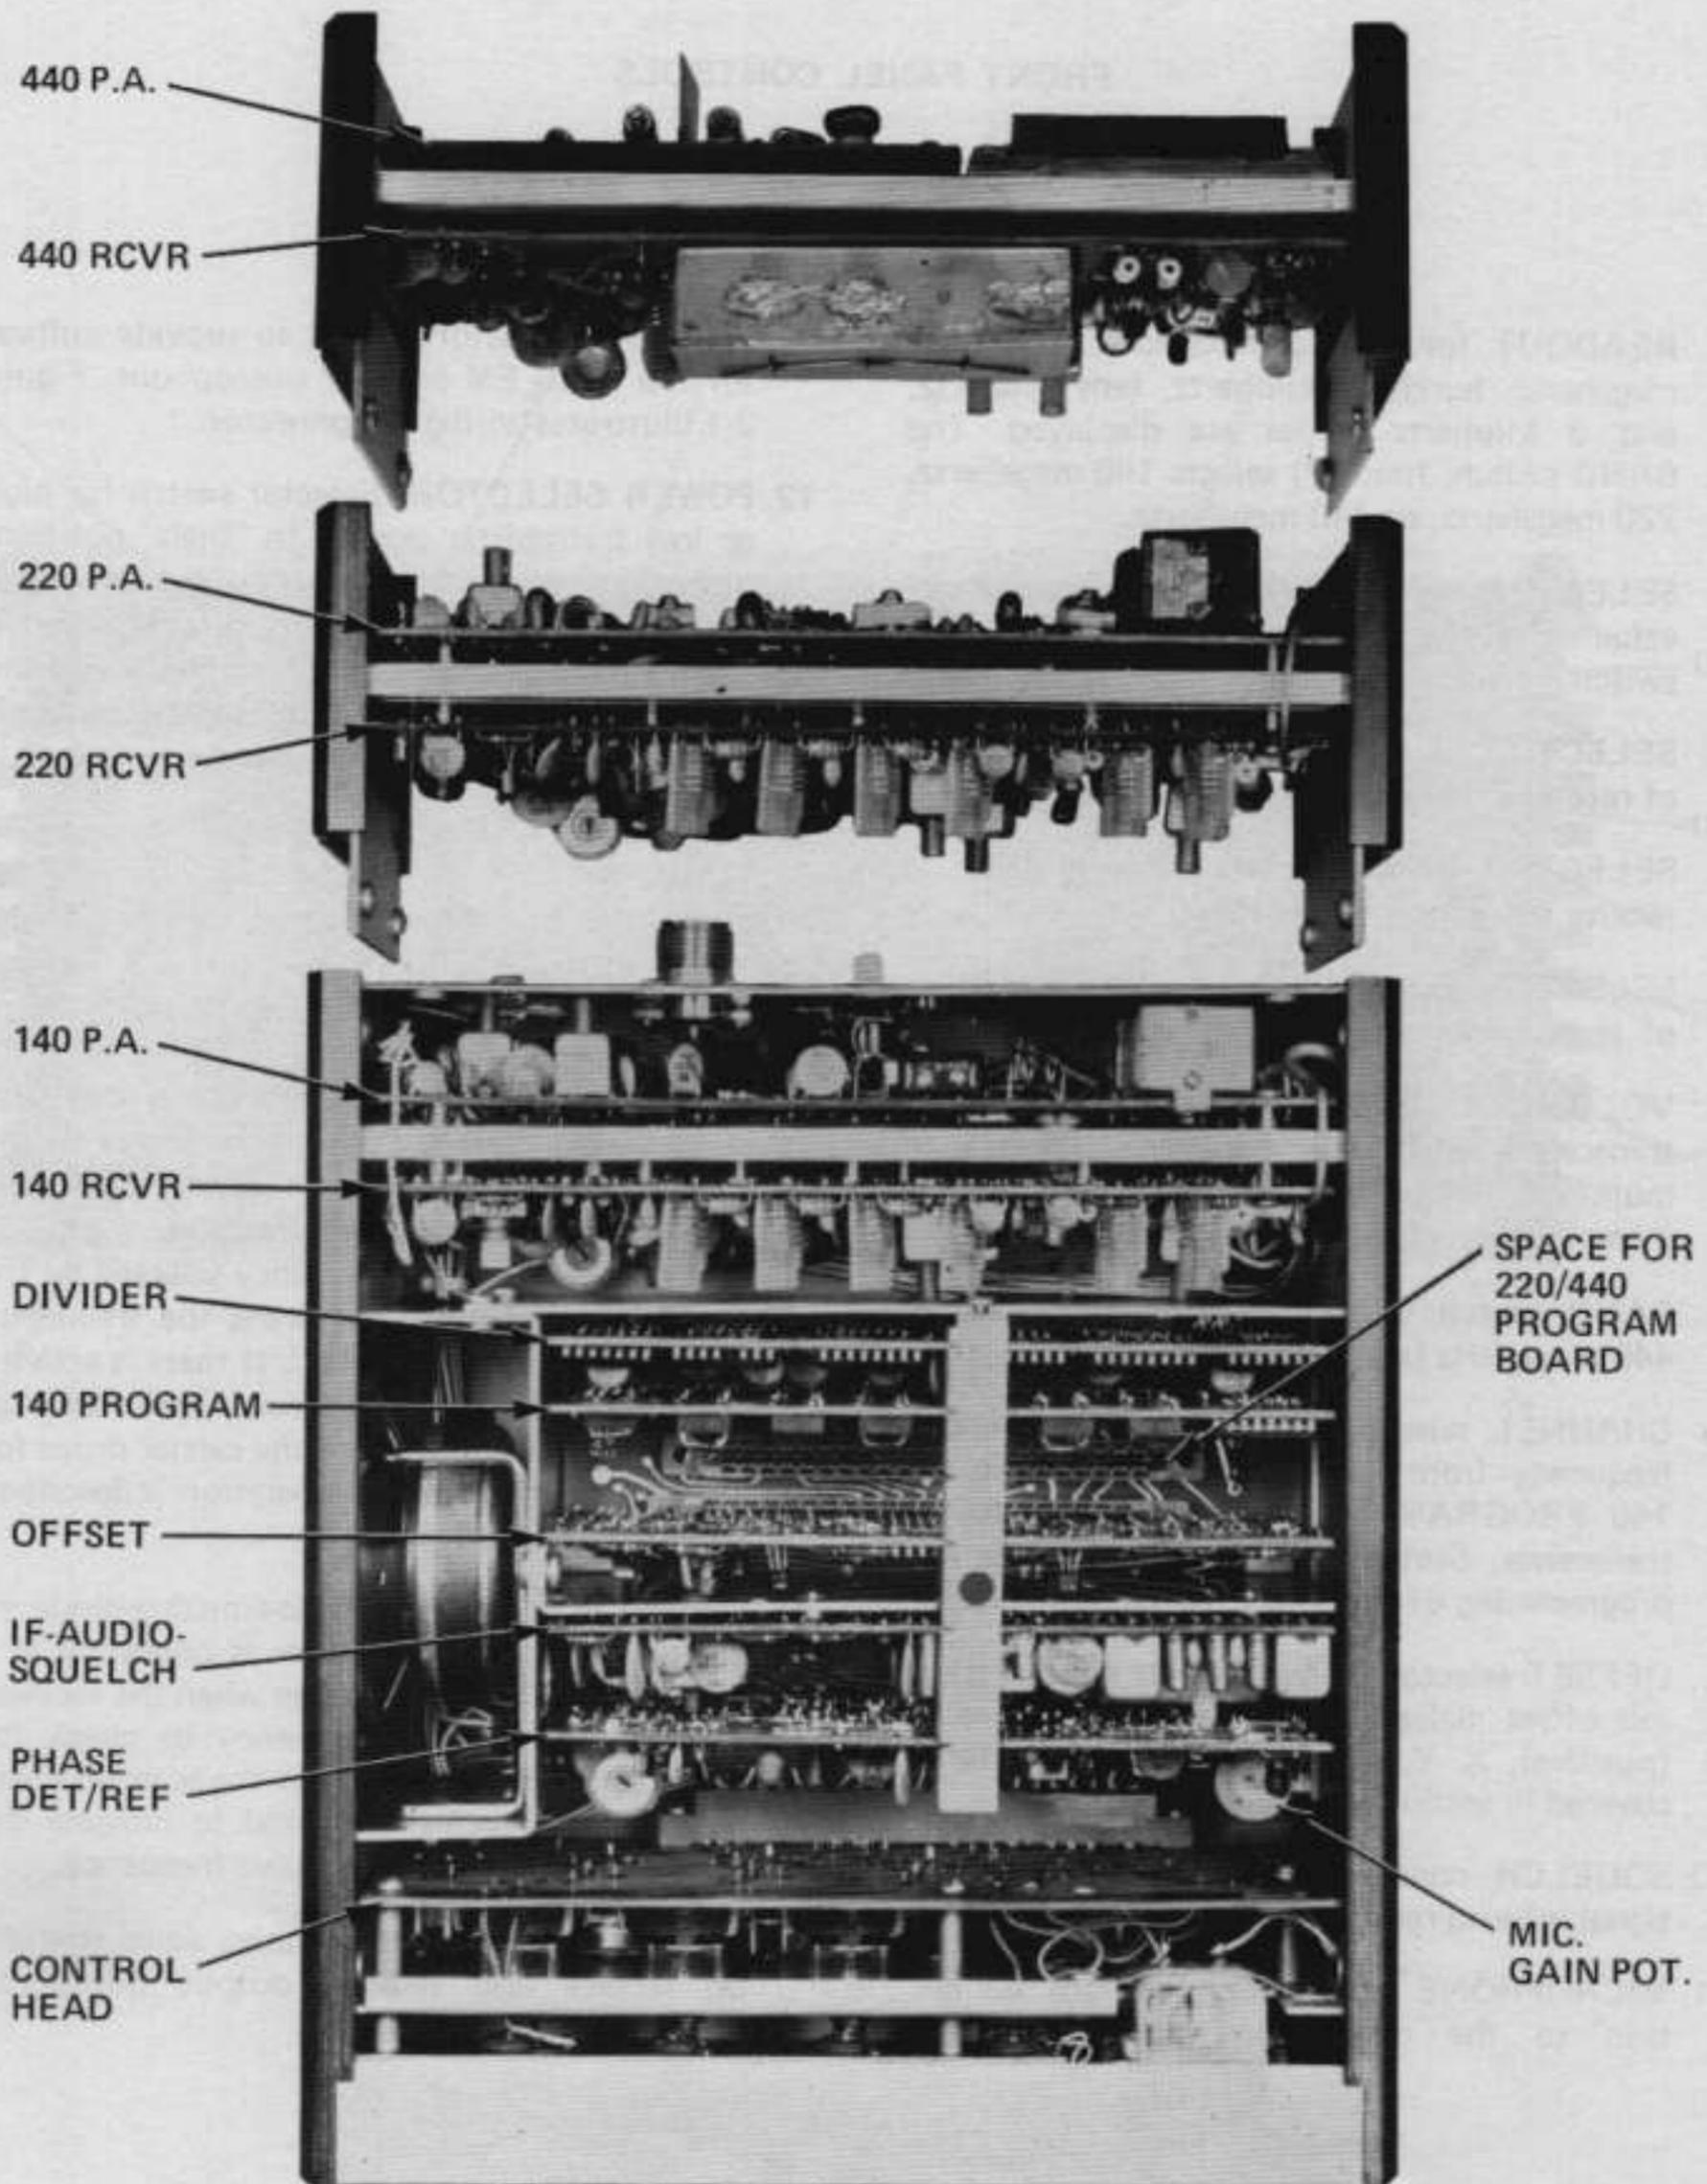
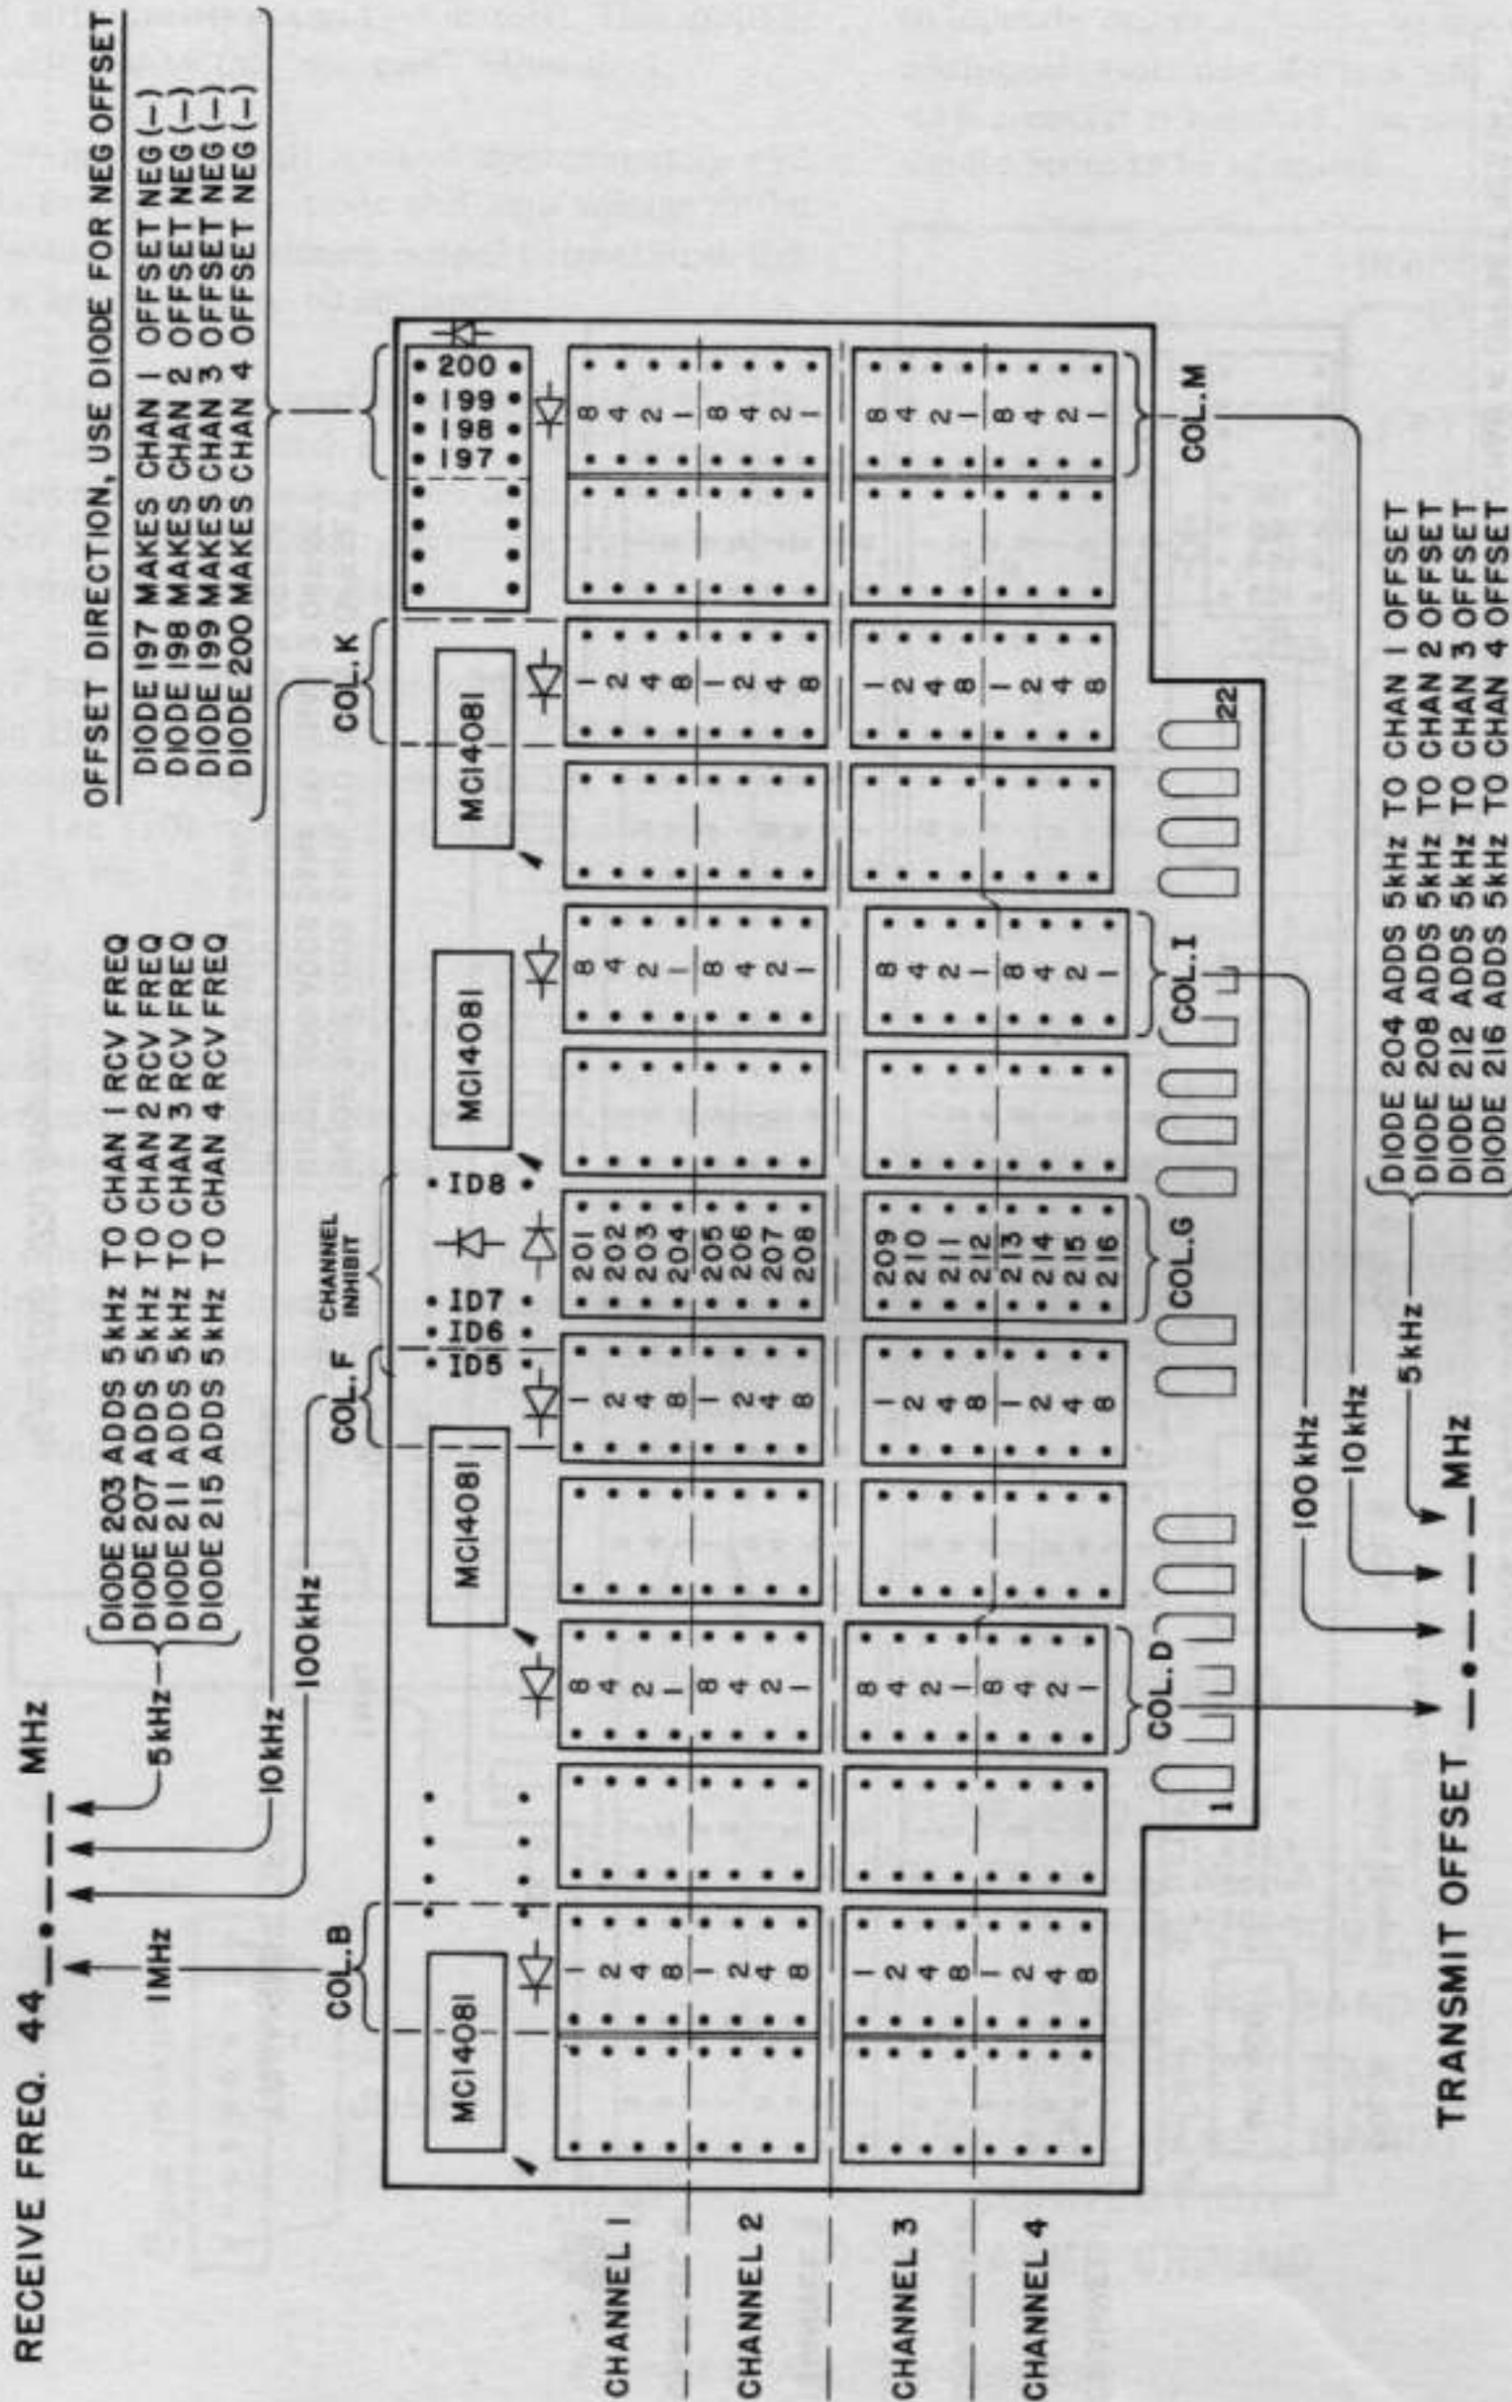

Figure 3-2. Board Locations
Figure 3-7. 440 Programming
A standard 500 ohm dynamic microphone is supplied with the UV-3. The microphone is equipped with a #329-1055 connector which mates with the transceiver input receptacle located at the lower right of the front panel. Other microphones may be used with the UV-3, but it is highly recommended that a low impedance (less than 1 kΩ) dynamic microphone be used since the audio processing circuitry is designed for dynamic elements. The use of other microphones may necessitate readjustment of the "mic gain" control located on the "Phase Det/Ref" board. See figure 3-2 for placement of the "mic gain" pot. If readjustment is required, it is easily performed by having other stations give reports on microphone level. Do not adjust any controls other than the "mic gain" pot when attempting to readjust microphone level. Refer to the drawing in figure 2-1, when wiring other microphones for use with the UV-3. Make sure ground and shield connections are made exactly as shown. Note that pin 4 is supplied with a DC voltage through a 1 kΩ resistor. This arrangement provides operating voltage for a Drake 1525 EM encoder microphone, and is not used with other microphones.
The remaining three positions "X", "Y", and "Z" provide offsets which are diode programmed on the OFFSET board. See figure 3-2 for location of the OFFSET board. "X", "Y", and "Z" offsets may be positive or negative as desired and are the same value on all three bands. Complete programming instructions are provided in section 3-5, Programming the Offset Board.
Refer to Figure 3-2, Board Locations, for exact placement of the 140 PROGRAM BOARD. Remove the board using the board puller, and position with the edge connector at bottom as shown on the 140 PROGRAM BOARD. There are 6 columns of integrated circuit sockets labeled A through G. Each column is made of two (2) IC sockets; each socket will accommodate eight (8) diodes. The top four (4) rows of each column are used to program Channel 1. The BAND switch programs 140 megahertz into the synthesizer in the
The CHANNEL selector switch allows selection of four diode programmable channels each, for the 220 MHz and 440 MHz bands. Programming the 220/440 PROGRAM BOARD is similar to programming the 140 PROGRAM BOARD, that is, the *receive frequency and transmit offset frequency* are programmed. Refer to Figure 3-2, Board Locations, for exact placement of the 220/440 PROGRAM BOARD. Figure 3-6 and figure 3-7 are both concerned with programming the 220/440 PROGRAM BOARD. For purposes of clarity, only 220 MHz programming is shown in figure 3-6 and 440 MHz programming is shown in figure 3-7.
Programming the 440 MHz band is performed in the same manner as described above for the 220 MHz band. The BAND switch programs 440 megahertz into the synthesizer in the "440" position. Refer to figure 3-7, again, it is only necessary to program the remainder of the desired receive frequency for each of the channels, and the corresponding offset for that channel. Program the units megahertz value of receive frequency into column B (note direction of diode), using the required combination of (1), (2), (4), and (8) diodes. The 100 kilohertz value is likewise programmed into column F, and the 10 kHz value is programmed into column K. A single diode in position 203 of column G, adds 5 kHz to Channel 1. A 5 kHz value is programmed into Channels 2, 3, or 4 by placing a single diode in position 207, 211, or 215 respectively.
The transmit offset frequency is programmed into columns D, I, and M. Refer to figure 3-7, for the location of columns D, I, M, and the direction of diodes for these columns. The megahertz value of offset is programmed into column D using a (1), (2), (4), or (8) diode value. Column I is similarly programmed to provide the desired 100 kHz value and column M is programmed for the desired 10 kHz value. A single diode adds 5 kHz to Channel 1 in position 204 of column G (note diode direction). Diode positions 208, 212, and 216 may be programmed to add 5 kHz to Channels 2, 3, and 4 as required. Offset direction for Channel 1 is negative if a diode is used in position 197. Diode positions 198, 199, and 200 may be programmed for negative offset for Channels 2, 3, and 4 respectively.
Refer to Figure 3-2. Board Locations, to determine the location of the OFFSET BOARD. Remove the OFFSET BOARD only with the board puller. Figure 3-4. Offset Board, shows the program sockets used for programming the X, Y, and Z values of offset. Diodes are plugged into integrated circuit sockets exactly as on the 140 PROGRAM BOARD. Figure 3-4 shows three sections of IC socket positions that correspond to X, Y, and Z offsets. A single four position IC socket is used to program the 5 kHz value of offset (one position is not used). Also, a single four position IC socket is used to program the direction of the transmit offset.